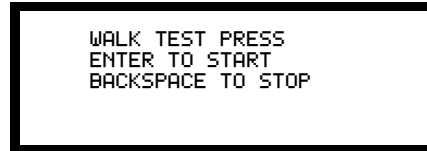

Figure 94 Walk Test Entry Screen
1. From the Status Change screen (Figure 84 on page 93), press the **6** key to display the Walk Test Entry screen as shown in Figure 94: